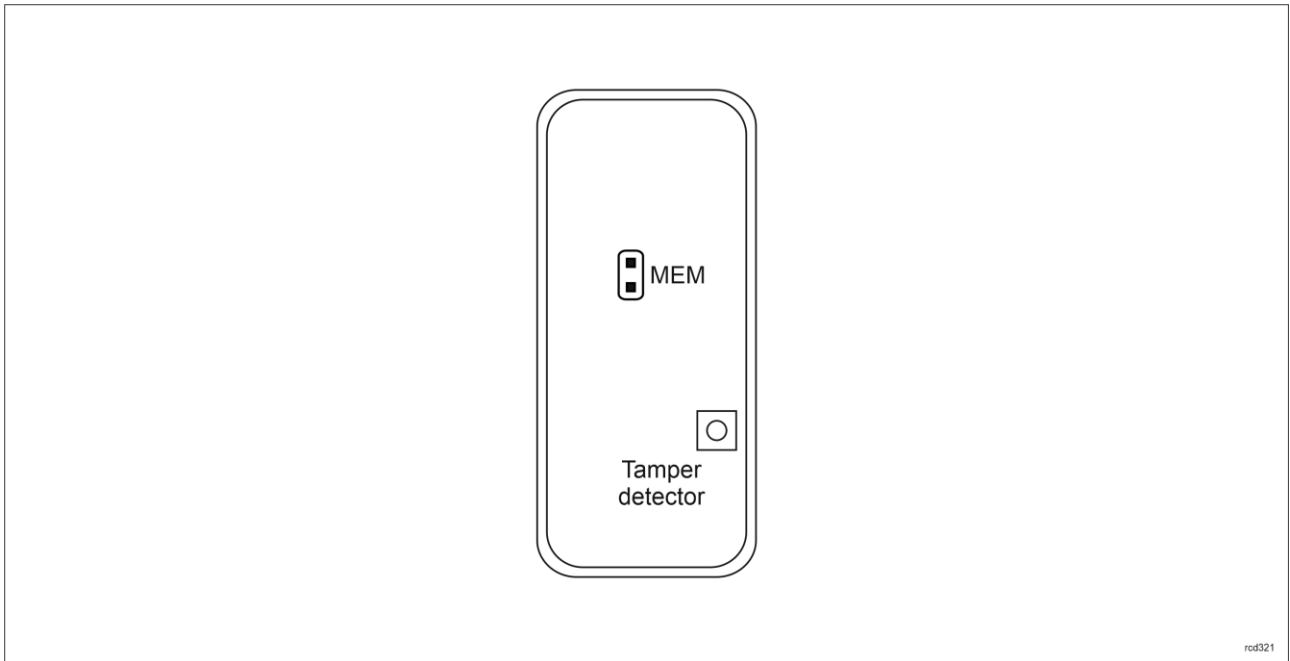

Fig. 5 Programming jumpers
Built-in tamper (sabotage) detector enables detection of unauthorized opening of device's enclosure as well as detachment of the enclosure from wall. The detector is internally connected to the terminal's input. It does not require low level configuration (RogerVDM) or any additional installation arrangements but it is essential to mount front panel in such way as the tamper detector (fig. 5) would firmly press the back panel.
- Front panel should be attached in such way as the tamper detector (fig. 5) would firmly press the back panel.
2. Remove jumper from MEM contacts (fig. 5) if it is placed there.